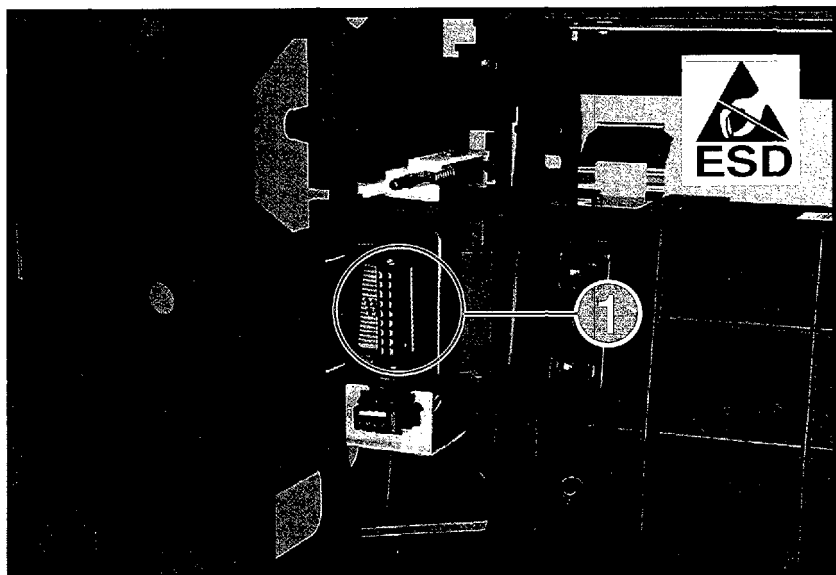

Figure 6-50 The DC Controller/Scanner Connector Location
4. From the top of the printer, lift the connector assembly out (Figure 6-50, callout 1).